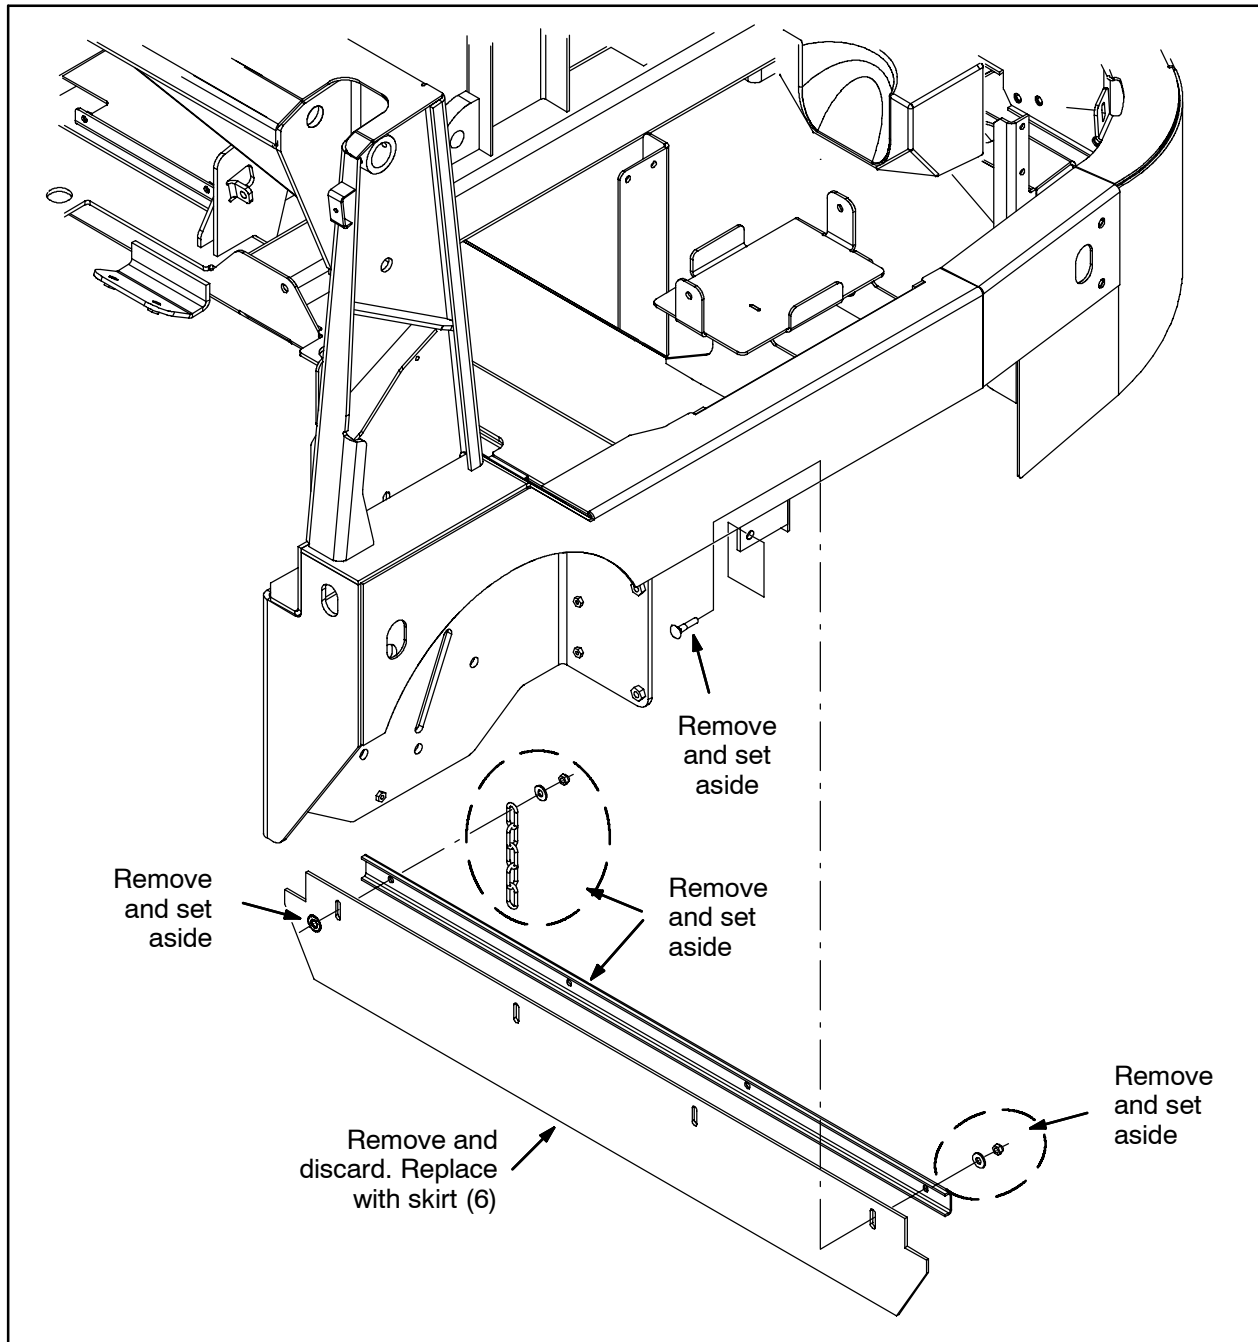

FIG. 2
6. Remove the brush compartment skirt from the machine. Discard the removed skirt and set the mounting hardware and static chain aside. Refer to Fig. 2.
7. Use set aside hardware to install the new brush compartment skirt (6) and the static drag chain onto the machine. Refer to Fig. 2.